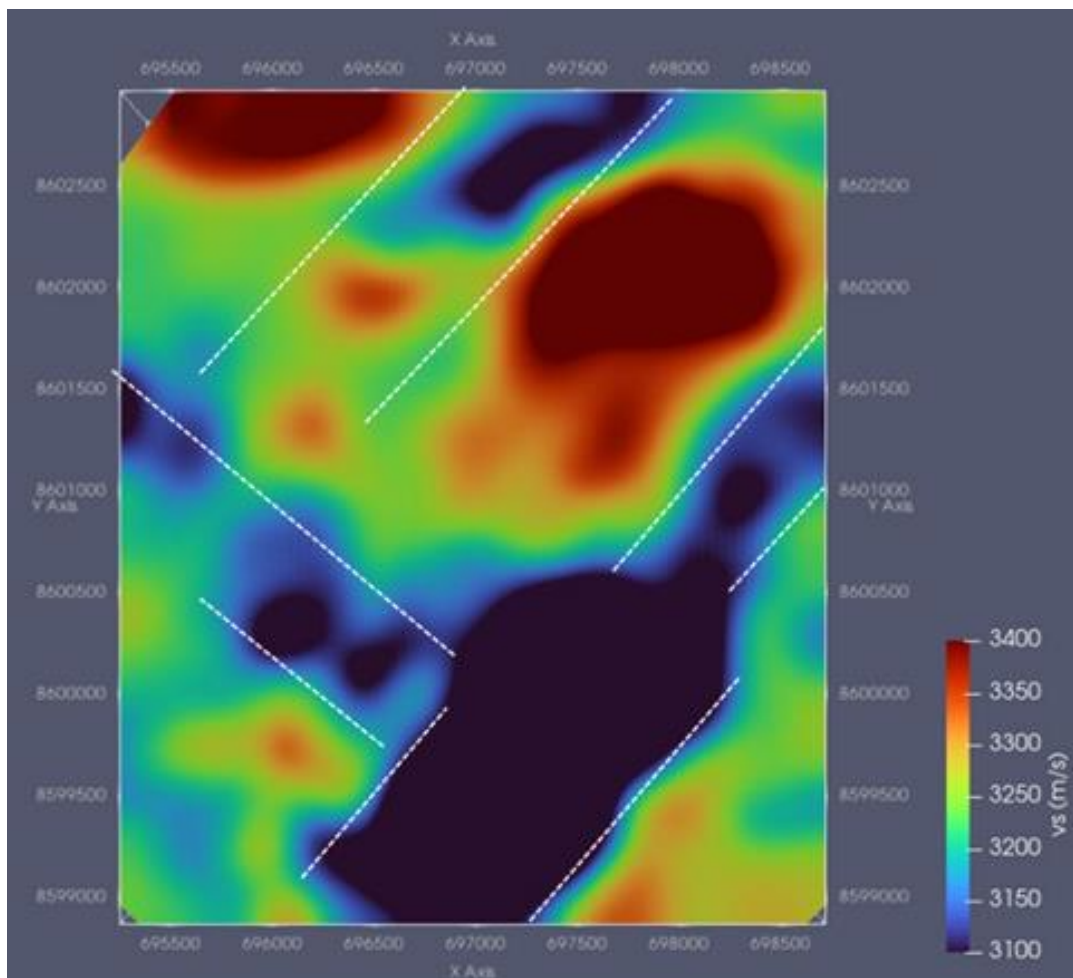

Figure 6: Depth slice of Area 1 showing velocity distribution at 250m below surface, with preliminary structural interpretation.
The ANT data in Area 1 highlighted two structural trends (see Figure 6).
- The second is a more subtle NW-SE trend, that is thought to be related to pegmatite emplacement. An anomalous velocity low is seen to be contained within this NW-SE trend in Figure 6.